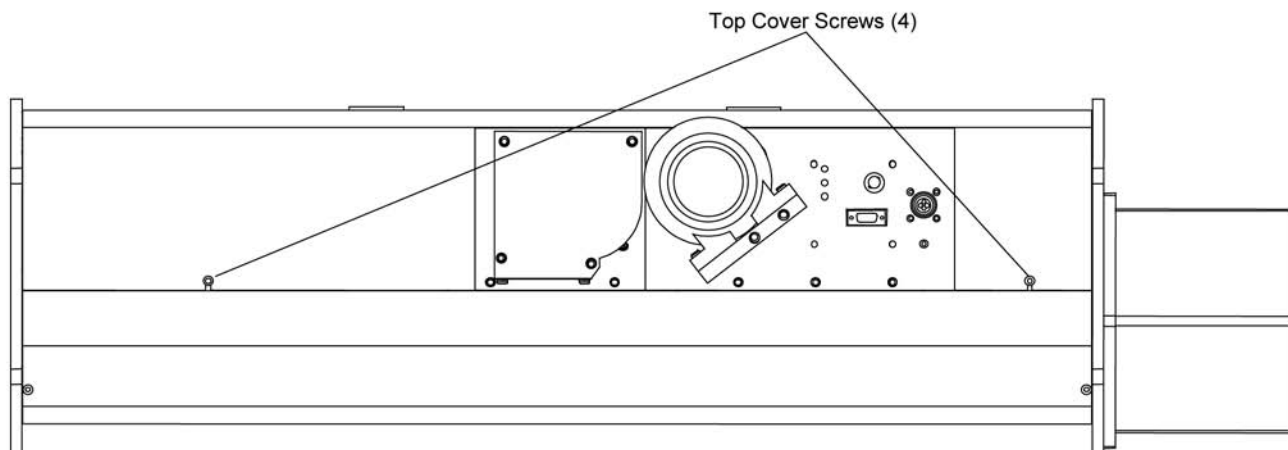

Figure 8-13
2. Loosen the four screws fastening the top cover of the Nephelometer and remove the cover (Figure 8-13).